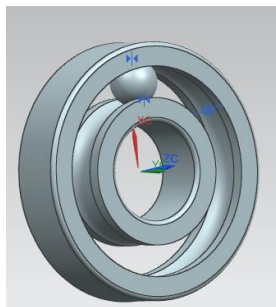

Figure 6.1
c) Go to the **Add** section again. In the resulting **Add Component window**, go to **Open**. From there, select the ball and click **Ok** and click **Ok** again. Make the necessary settings using the **Move Component** command. We enter the **Assembly Constrains** command. **Select Touch Align** in the **Type** section of the resulting window, **Align** to **Orientation** in **Geometry** to **Constrain**, and select **Two Objects** to select the corresponding surface of the coordinate system in the sphere with the surface of the coordinate system parallel to the wallpaper. Click **Apply**. Then select **Touch** in **Orientation** and select **Two Objects** with the ball surface and the moving surface of the ball in the wallpaper. As a result, the sphere is placed in its range of moving wallpaper (inner and outer wallpaper) (Figure 6.1). We enter the **Pattern Component**. Select the ball to **Select Component**, the vector perpendicular to the wallpaper to **Specify Vector** and the